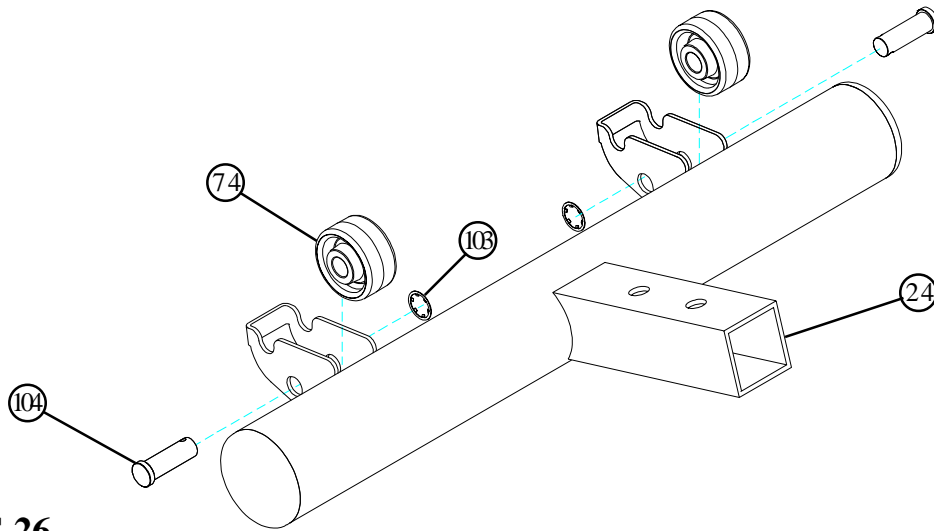

FIGURE 26
- Assemble two FLOOR ROLLER WHEELS (74) to the BENCH FOOT (24) using two 1/2" X 1-1/2" CLEVIS PINS (104) and two 1/2" EXTERNAL RETAINING RING (103) as shown in FIGURE 26.